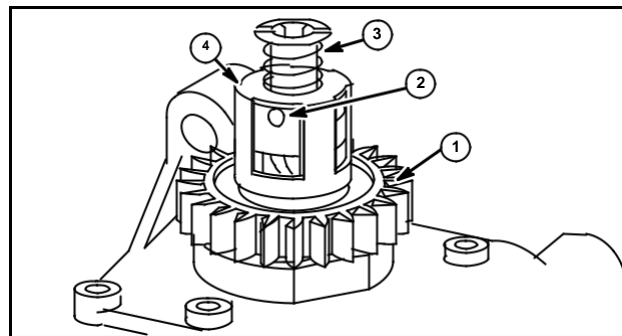

Fig. 42
Assemble Starter Motor Drive, Fig. 42
1. Reverse disassembly procedure for assembling. Assemble the pinion gear with beveled edge on the gear up as shown in Fig. 42.
3. Press or drive new roll pin through retainer slot and armature shaft hole with roll pin slot positioned as shown (2). The roll pin should be centered in shaft within 1/32" (.8 mm). ASSEMBLE WITH NEW ROLL PIN ONLY. Optional spring (3), retainer (4).